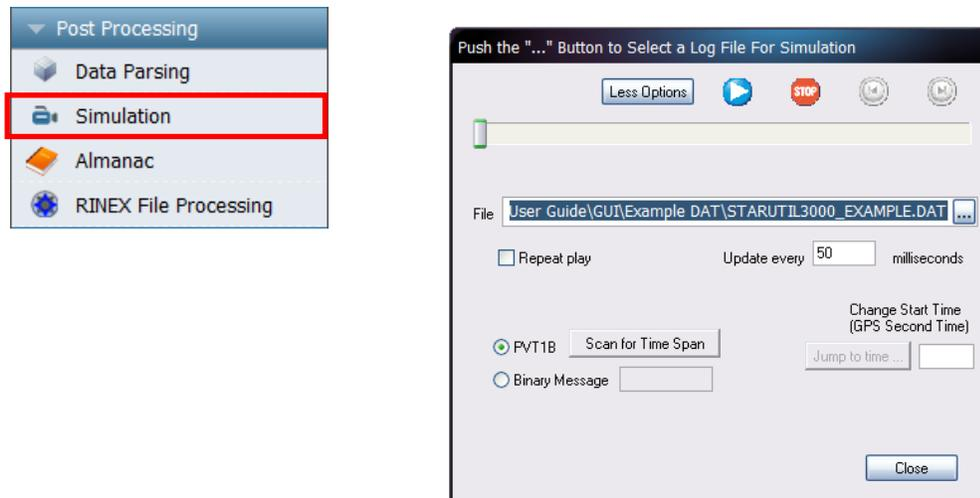

Figure 156: Simulation Dialog Box
1. Click the *Simulation* button on the *Post Processing* menu to open the *Simulation* dialog box (see Figure 156).